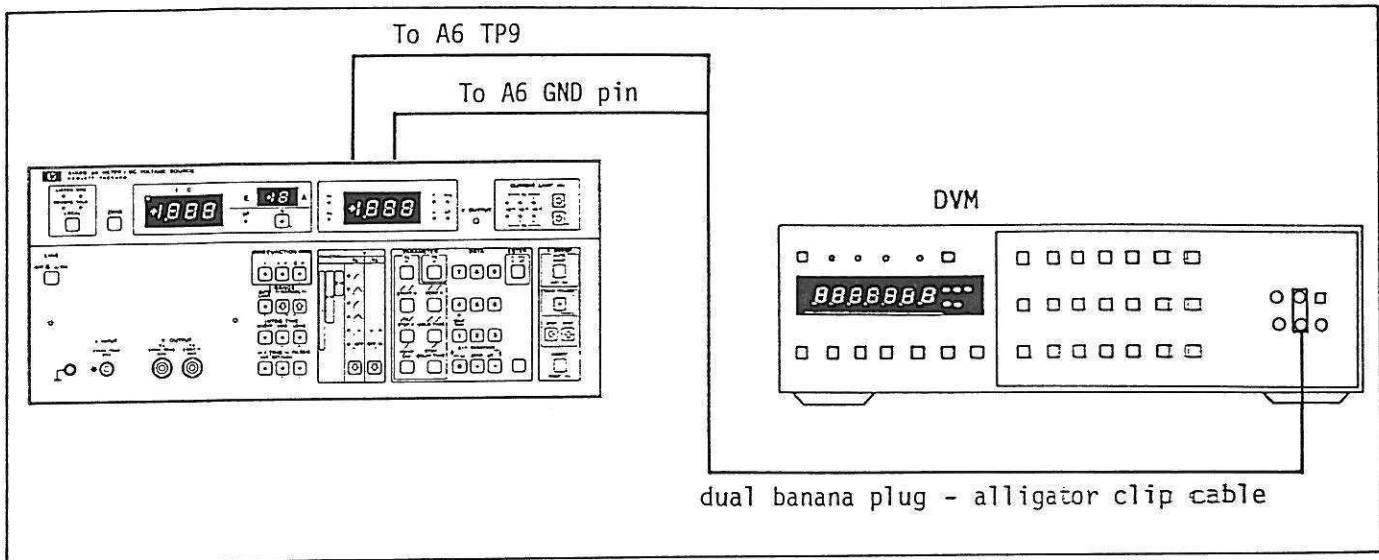

Figure 5-6. VS (Voltage Source) Ramp Generator Adjustment Setup.
4. Connect the positive input of the DVM to "dV/dt BUF. OUT" A6TP9 (see Figure 8-45 for location) and the negative input to A6GND with dual banana plug-to-alligator clip cable. See Figure 5-6.